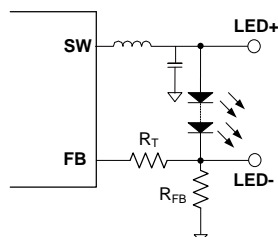

Figure 4: Feedback Network
The output current is set by the external resistor R_{FB} (see Figure 4). The feedback reference voltage is 0.2V, and I_{LED} is calculated with Equation (1):